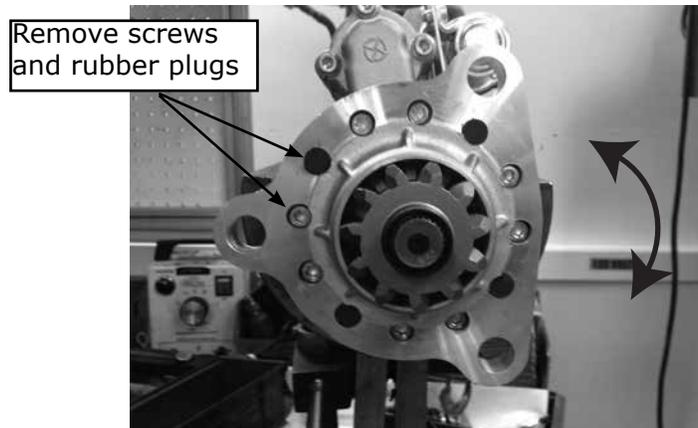

Fig 1
Step 1: Remove all screws attaching the flange to the starter and rubber sealing plugs. Fig 1
Step 2: With a soft face mallet, gently tap the flange rotating it into the desired position. Fig 1
Step 3: Apply 242 Loctite to screws removed in step 1. Install screws and torque to 12-14NM. Install rubber plugs into holes that are not used. Fig 1